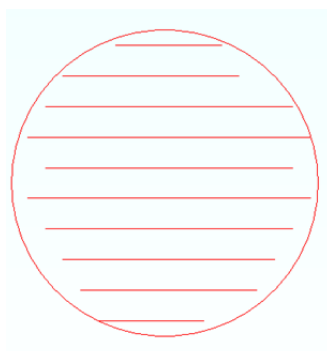

Figure 68: IsoGrid Fill
- IsoGrid - Every other fill vector will be offset along the direction of the vector (Figure 68)